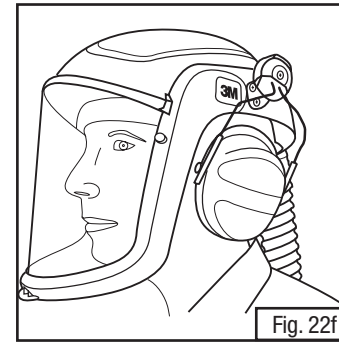

Fig. 22f
- **Usage:** When in use, the wire bands must be pushed fully inward toward your head until you hear a “click” (Fig. 22f). The cup cushions must fully enclose the ears and seal tightly against the head. For best attenuation performance, pull hair back from under the ears so that the cups sit close on the head.